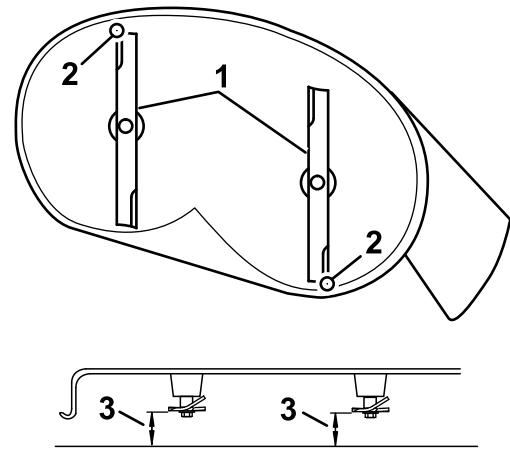

Figure 60
4. Carefully rotate the blades so they are facing front to rear (Figure 60).
5. Measure from the tip of the front blade to the flat surface and the tip of the rear blade to the flat surface (Figure 60).
4. After adjustment, check the front-to-rear slope again, continue adjusting the nut until the front blade tip is 1.6 to 7.9 mm (1/16 to 5/16 inch) lower than the rear blade tip (Figure 60).